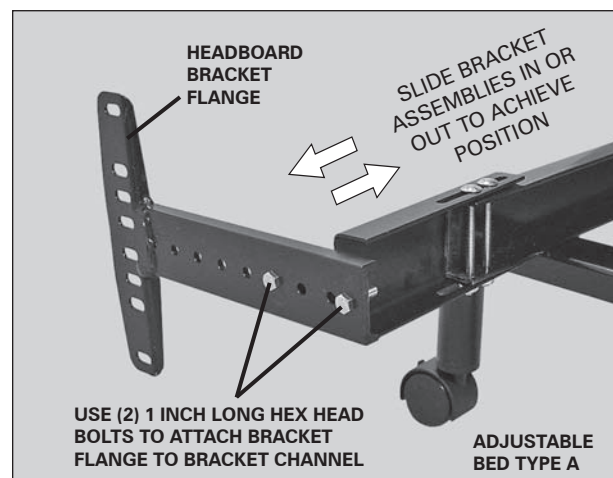

FIGURE 23: Bed base Type A headboard bracket flange attachment.
- f. Attach (1) headboard bracket flange to one of the bracket channels with (2) 1 inch long hex head bolts/nuts (**FIGURES 23 and 24**). Tighten bolts.
TWIN SIZE HEADBOARD BRACKET ASSEMBLIES ARE SHOWN (FIGURES 23 AND 24). QUEEN SIZE HEADBOARD BRACKETS ARE EQUIPPED WITH ANGLE BRACES.